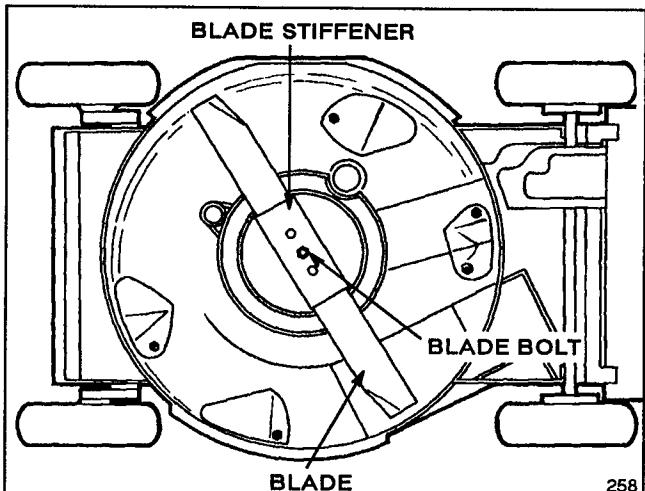

Figure 18
3. Tip mower on its right side (Fig. 18). Avoid rotating the blade because starting problems may result.
5. REMOVING BLADE—Grasp end of blade using a rag or thickly padded glove. Remove blade bolt, lockwasher, blade stiffener, and blade (Fig. 18).